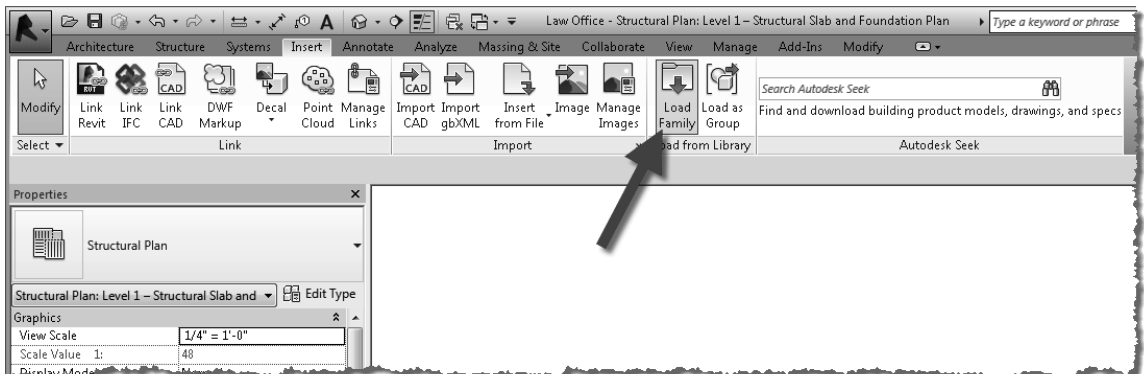

FIGURE 7-2.12 Loading content
31. Click **Insert** → **Load Family** from the *Ribbon* (Figure 7-2.12).